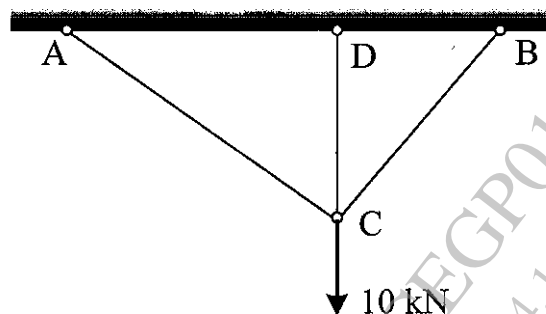

Fig. 3
- (b) Two pin jointed rods AC and BC are hinged to a rigid ceiling at point A and B, 2.5 m apart. AC is 2 m long and makes a right angle to BC. If a vertical bar DC, hinged at C and to the ceiling at D is added, calculate the force in the three members when a load of 10 kN is suspended from C. All three rods have the same cross-sectional area. Refer Fig. 3. [6]